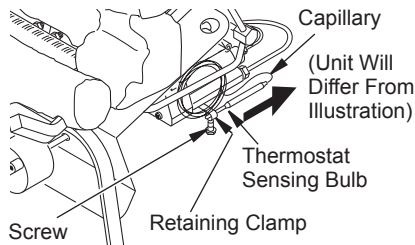

Figure 44 - Removing Thermostat Sensing Bulb
2. With 5/16" hex driver or socket, loosen the thermostat screw. Carefully slide the thermostat sensing bulb out of the retaining clamp (see Figure 44).